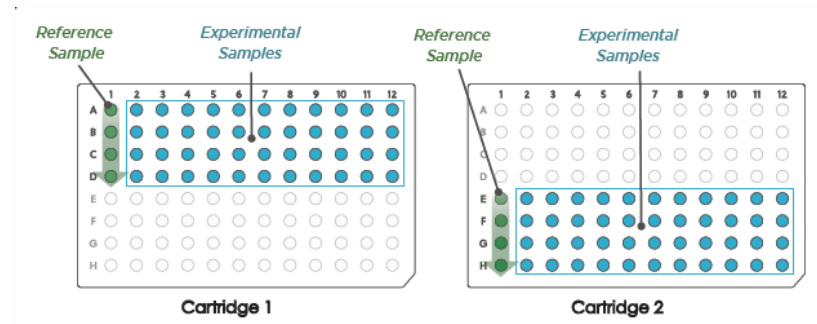
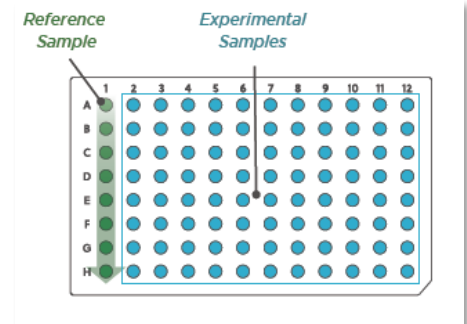

Figure 17: First and second run—partial PlexSet plates
Figure 18: Third run—full PlexSet plate
- Run less than 96 samples on a plate, with PlexSet tubes A–D (for example) on one plate (by rows) and E–H on another plate using the same or different probe sets (Figure 17 and 19, respectively).
Less than 96 samples can be run per cartridge; the same RLF is used for these scenarios (first and second run, Figure 17). PlexSets A–D can be run on one cartridge (first run), and PlexSets E–H can be run on another (second run). If you subsequently run a full plate with a different combination of PlexSets A through H (e.g., all PlexSets), a reference sample should be re-run across all PlexSets for calibration (third run, Figure 18).